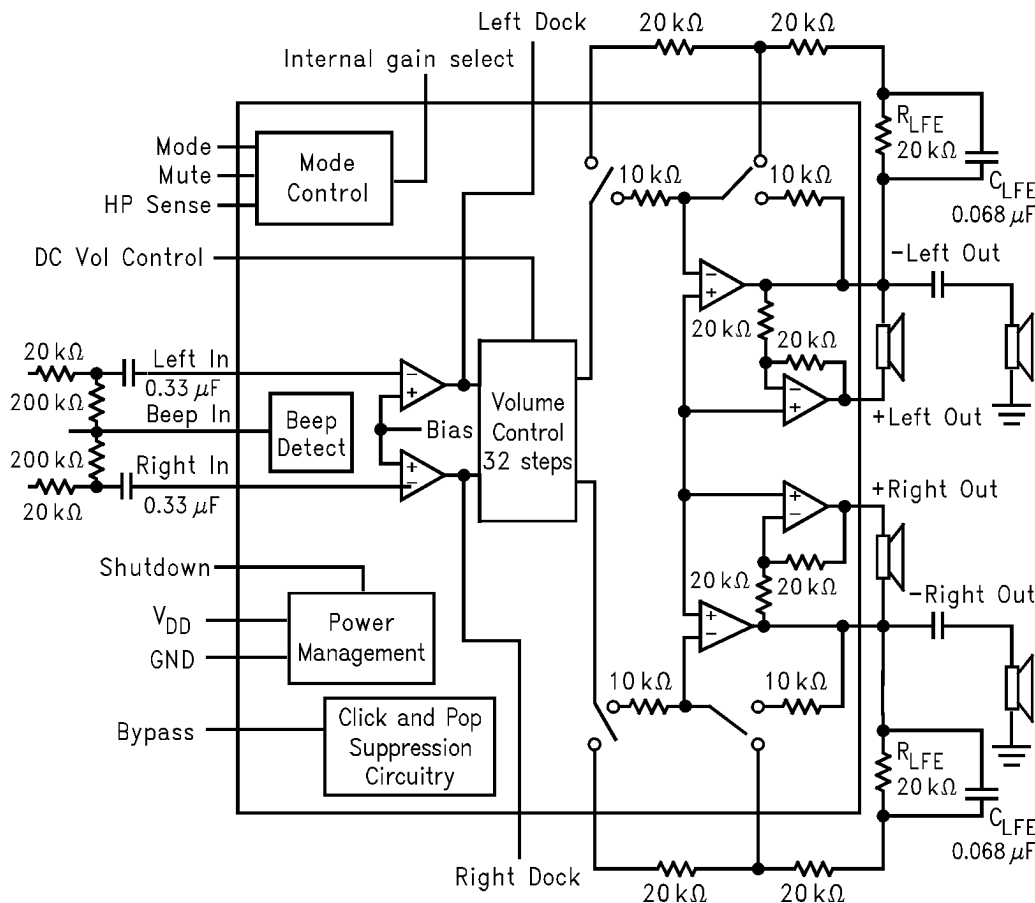

Figure 3. LM4835 Block Diagram
- (1) All voltages are measured with respect to the ground pins, unless otherwise specified. All specifications are tested using the typical application as shown in Figure 3.
- (2) Absolute Maximum Ratings indicate limits beyond which damage to the device may occur. Operating Ratings indicate conditions for which the device is functional, but do not ensure specific performance limits. Electrical Characteristics state DC and AC electrical specifications under particular test conditions which ensure specific performance limits. This assumes that the device is within the Operating Ratings. Specifications are not ensured for parameters where no limit is given, however, the typical value is a good indication of device performance.
- (3) Typicals are measured at $25^\circ C$ and represent the parametric norm.
- (4) Datasheet min/max specification limits are ensured by design, test, or statistical analysis.
- (3) Typical values are measured at 25°C and represent the parametric norm.
- (5) When driving 3Ω loads and operating on a 5V supply, the LM4835MTE must be mounted to the circuit board and forced-air cooled.
- (6) When driving a 3Ω or 4Ω loads and operating on a 5V supply, the LM4835LQ must be mounted to the circuit board that has a minimum of 2.5in² of exposed, uninterrupted copper area connected to the WQFN package's exposed DAP.
- (7) When driving 4Ω loads and operating on a 5V supply, the LM4835MTE must be mounted to the circuit board.